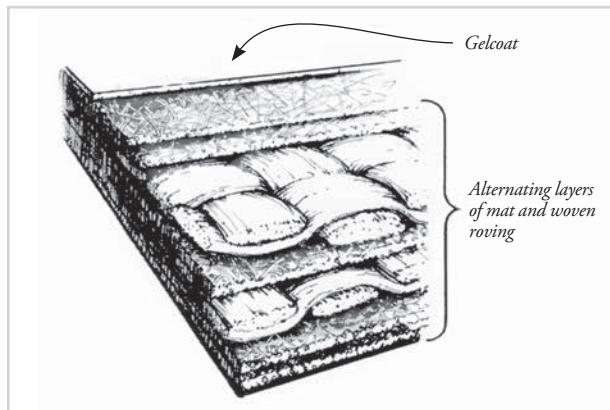

Figure 1-1 Typical solid (single skin) fiberglass laminate. Various reinforcing fabrics are bonded together with polyester resin.
Generally, production fiberglass boat hulls are built in a female mold. A release agent is first applied to the surface of the mold, over which the gelcoat material is applied. Gelcoat is usually a pigmented, unsaturated polyester resin and may be anywhere from 12 to 22 mils thick. It is designed to act as a moisture barrier for the underlying laminate, as well as to provide a smooth, glossy, cosmetic finish. Subsequent layers of fabric are saturated with resin and laid up over the gelcoat. There are as many lay-up schedules as there are boats. A typical hull section might consist of the layer of gelcoat, several alternating layers of mat and woven roving, and in many cases a core material such as end grain balsa or foam, followed by several more alternating layers of saturated mat and woven roving (Figures 1-1 and 1-2). Hull thickness may vary from boat to boat. Older boats were often laid up with a solid glass laminate thickness of $1 \frac{1}{2}$ " (3.8 cm) to as much as 5" (12.7 cm) in the keel areas of the more heavily-built boats. Today, however, the trend is toward thinner, lighter laminates, making the structural integrity of each of the laminate components all the more critical.
- b. Minor cracks or scrapes that run through the gelcoat into the first chopped strand mat layers of the laminate (Figure 1-1) should be repaired with epoxy using the procedures described below (Section 2.1). Finish with the gelcoat repair technique described later in Section 15.3.3. If necessary, reinforce the laminate to reduce flexing as described in Section 3.6.